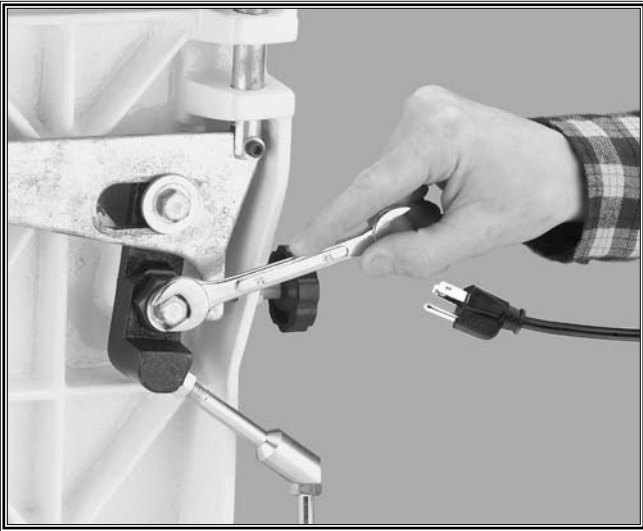

Figure 20. Loosening rocker arm bolt.
1. With the belt installed and the quick release lever engaged, loosen the hex bolt located at the pivoting point of the rocker arm as shown in **Figure 20**. Do not remove the bolt.